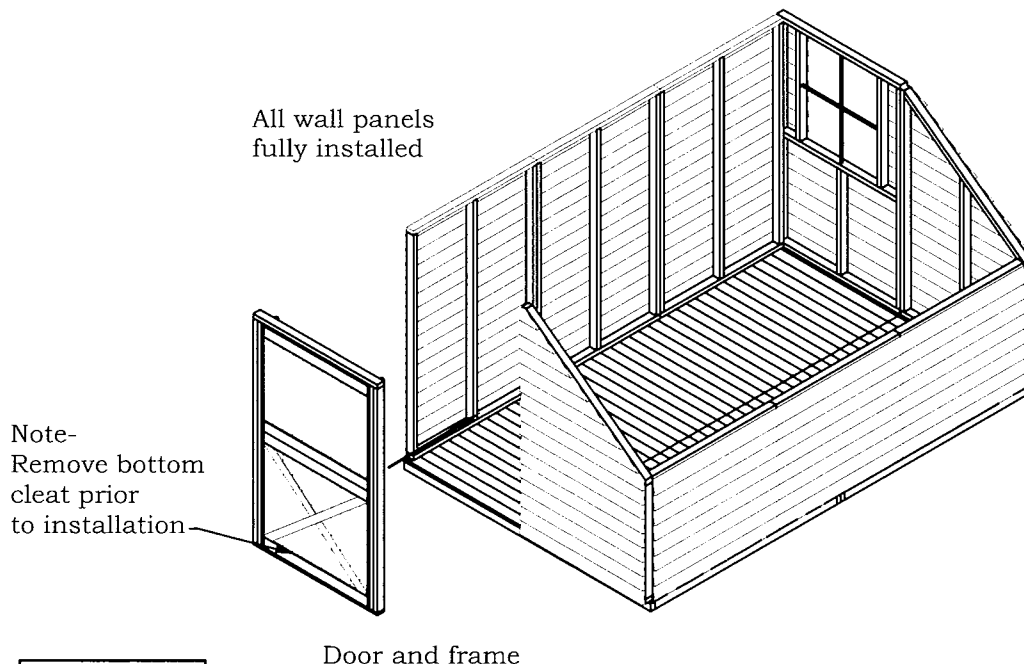

FIGURE D1
- Install the door frame once all the wall panels have been erected and installed. Secure the door frame using 3" long screws at every 12" centers along the vertical side panels on both sides of the door frame. Figure D1 shows the door and frame assembly illustrations for the 8x8 and 8x12 Sunhouse models.